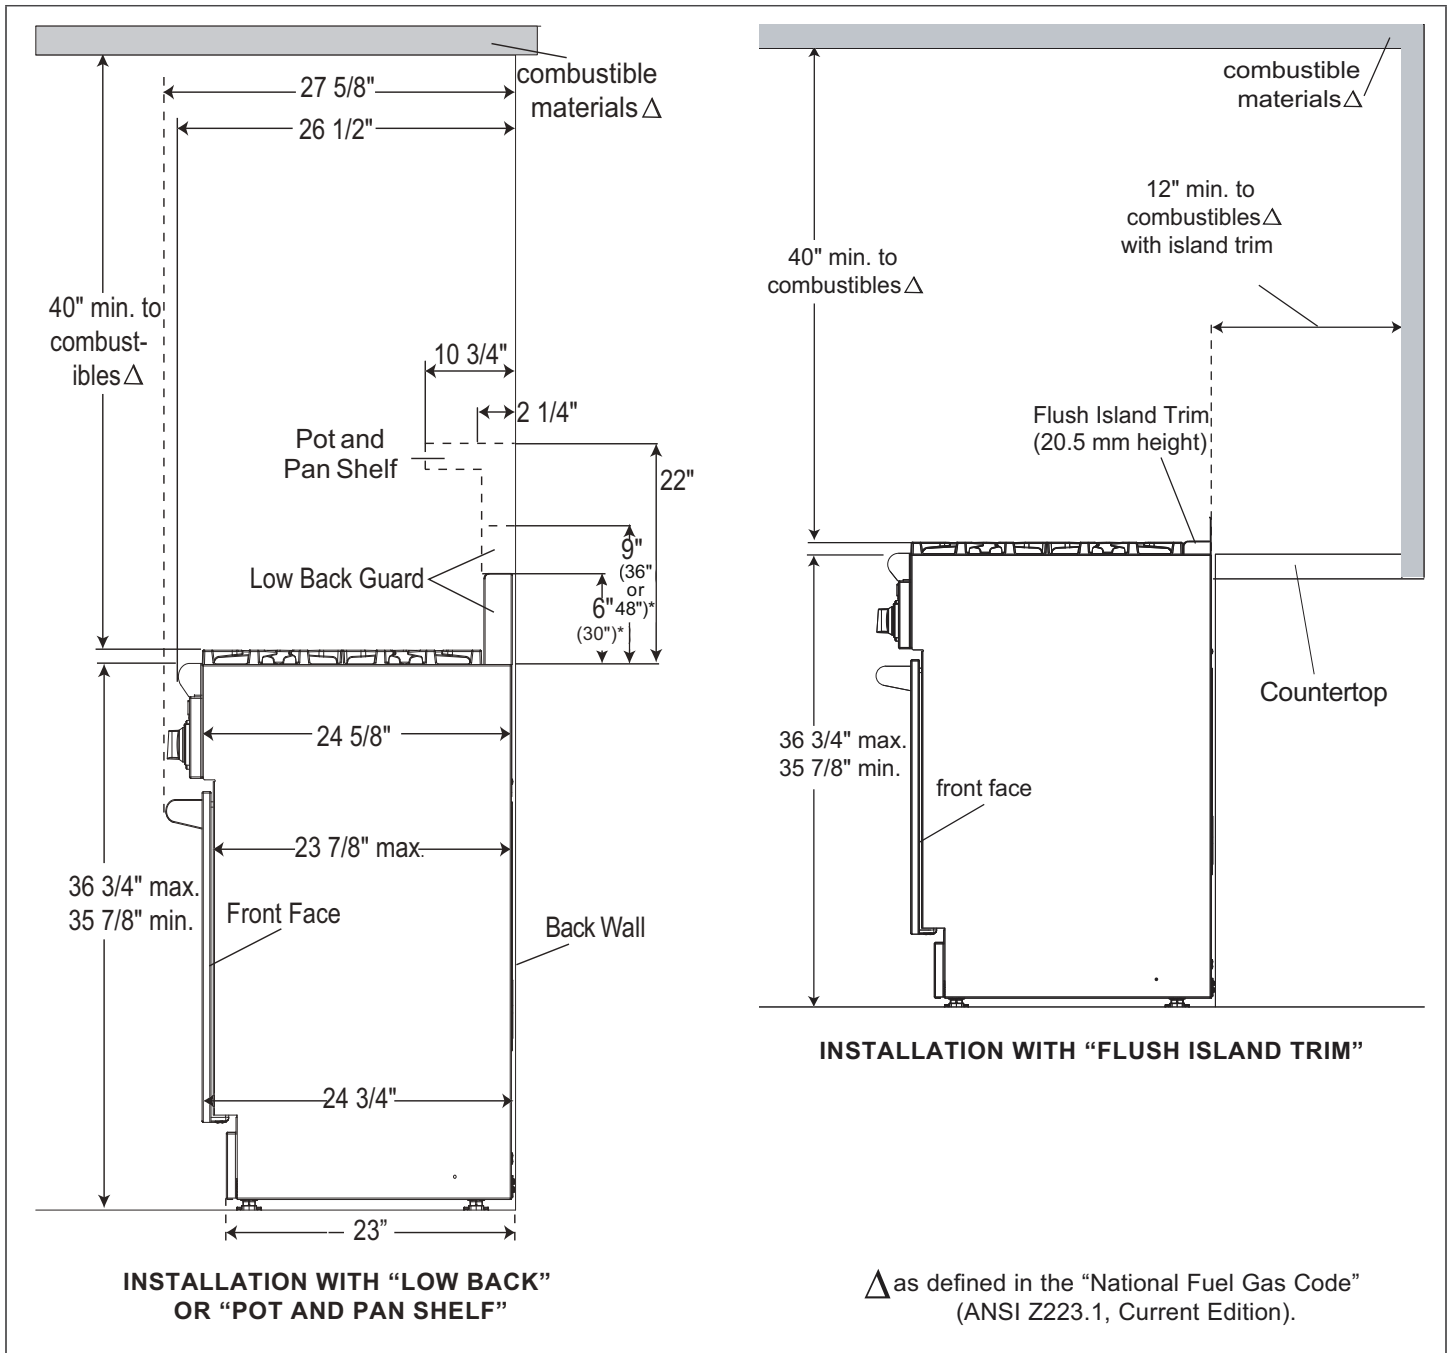

Figure 2: Side View
2. These ranges may be recessed into the cabinets beyond the edge of the front face of the oven (See Figure 2).
5. When there is less than a 12" horizontal clearance between combustible material Δ and the back edge of the range above the cooking surface, a Thermador Low Back or Pot and Pan Shelf must be installed. (See Figure 2). When clearance to combustible material Δ is over 12", a Thermador Flush Island Trim may be used. Figure 2 indicates the space required for each type of backguard.
- The range has an approximate shipping weight as shown in Chart A. The literature packet with manuals, cooking grates, griddle plate, burner caps, front kick panel and oven racks must be removed to facilitate handling. Removing the door(s) is also recommended (See "Step 8: Door Removal and Reinstallation" on page 15). This will reduce the weight as shown in Chart A. See Figure 2 on page 6. **Do not remove the griddle element and tray assembly.**